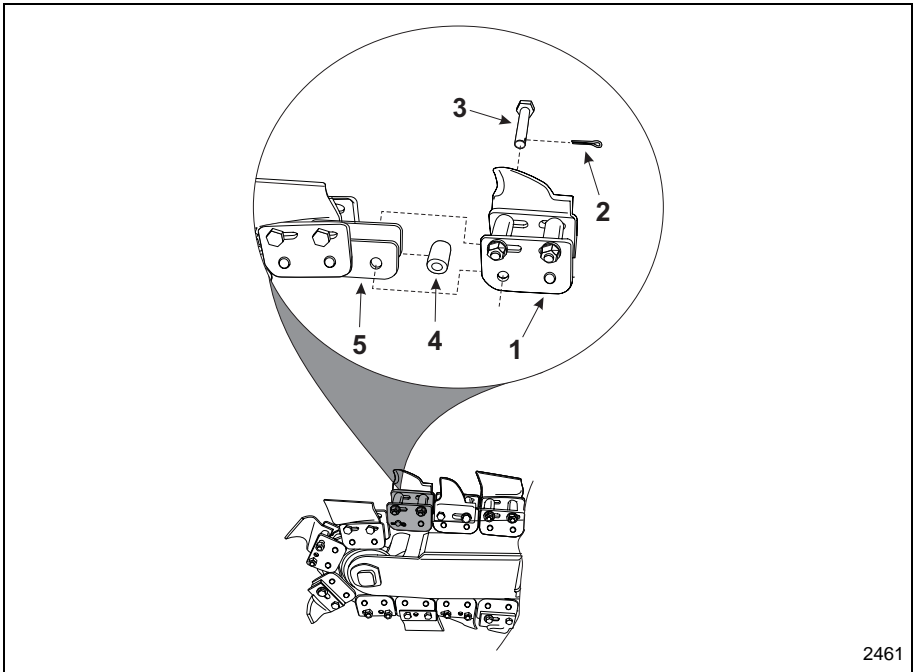

Figure 4-24 Master Link
1. Inspect the chain and locate the master link (Item 1, Figure 4-24), which will have a removable pivot pin and cotter pin instead of two bolts.
3. Remove the cotter pin (Item 2, Figure 4-24) from the pivot pin (Item 3, Figure 4-24) and then remove the pivot pin.
4. Remove the spacer tube (Item 4, Figure 4-24) from the chain links (Item 5, Figure 4-24).